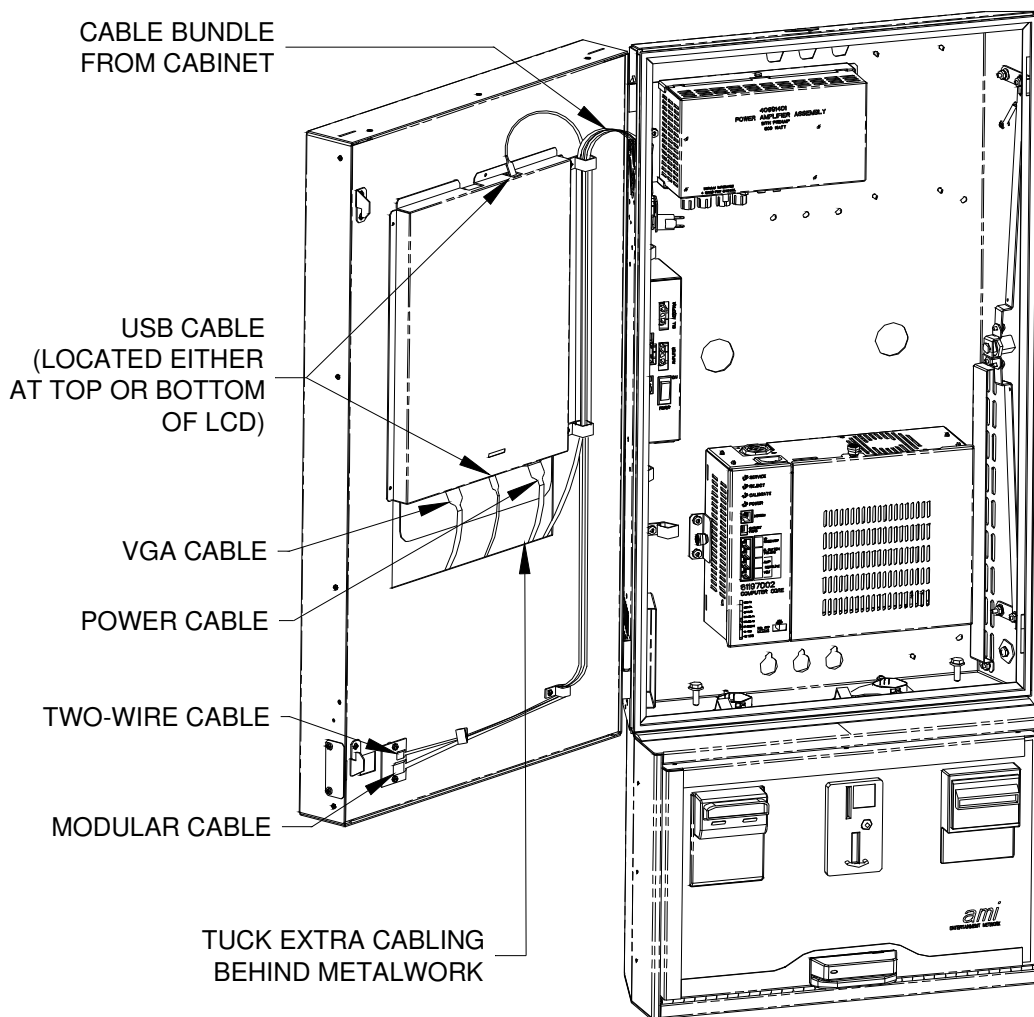

Figure 6-B – Inside View of NGX Jukebox with Front Door Opened
14. Using *Figure 6-B*, locate the bundle of cables taped to the inside back of the cabinet. Route the cable bundle to the front door and into the cable clamps to the right of the monitor as shown in *Figure 6-B*. Connect the VGA, power, and USB cables to the back of the LCD (**NOTE:** The USB cable will connect to either the top or the bottom of the LCD depending on the model). Tuck any slack on the LCD cables behind the metalwork as shown in *Figure 6-B*. Connect the modular cable and small two-wire cable to the interconnect board on the lower-left back side of the door as shown in *Figure 6-B*.